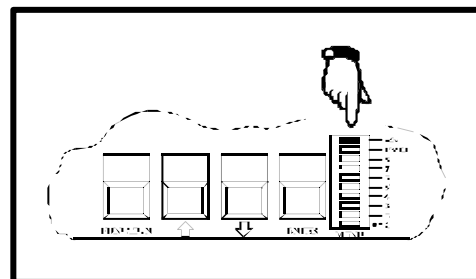

Figure 2-8
- (f) Turn **ON** the Mains ON/OFF switch. Check to see that the **+5v** indicator LED illuminates on the **Menu** Display located on the CPU card as shown in Figure 2-8.